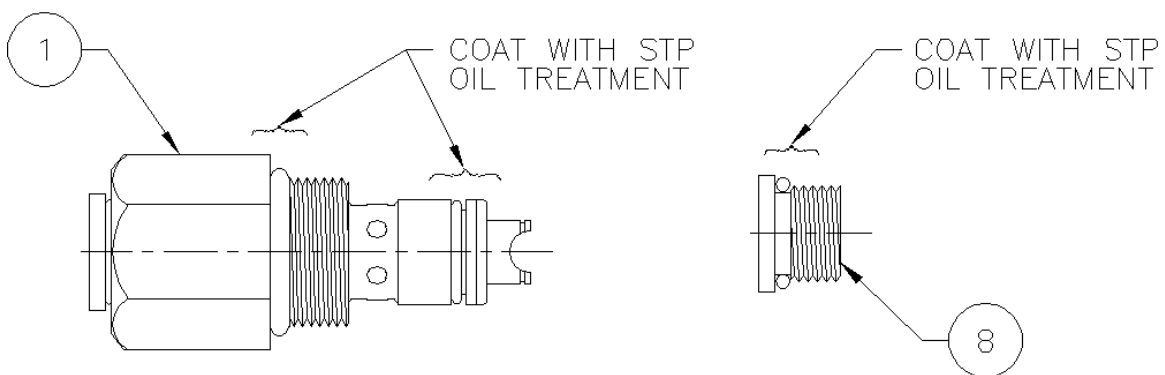
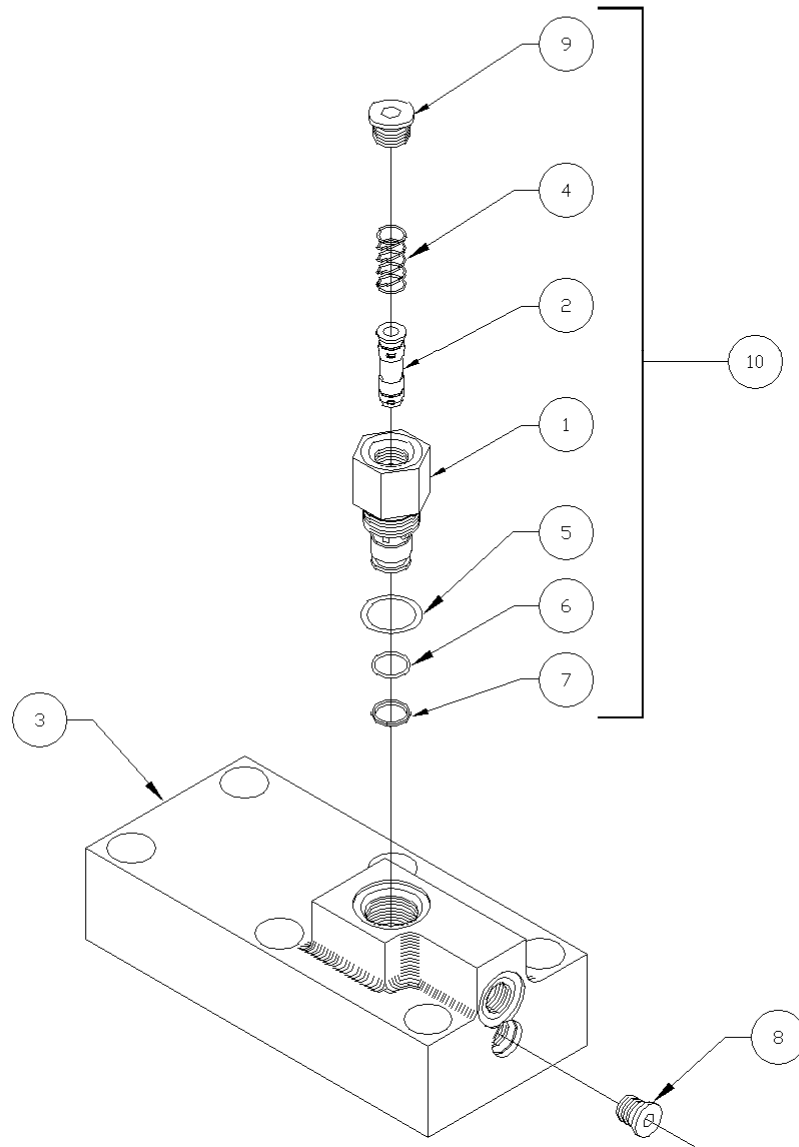

figure S-3
figure S-4
Before starting the assembly of the Slowdown, refer to the exploded parts drawing (figure S-4) and parts list to familiarize yourself with the individual components. Prepare a clean surface in an area free from blowing dust and contaminants in which to assemble the Slowdown. Be sure that all parts are clean and dry before starting assembly. NOTE: All torque values given apply to clean dry threads only. Follow these directions when assembling the Slowdown:
3. Coat the o-rings on the plunger housing (1) (figure S-3) and the o-ring on the o-ring plug (8) with STP Oil Treatment. Screw the plunger housing (1) into the top of the rack cap (3) (figure S-4) and tighten. Screw the o-ring plug (8) into the side of the rack cap (3) in the bottom port and tighten.